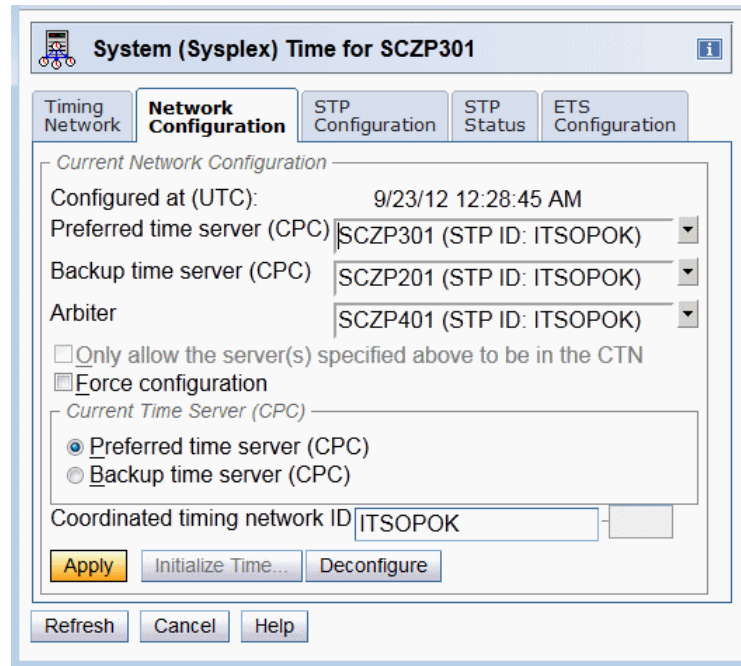

Figure 4-15 Assigning server SCZP401 as Arbiter
3. Select server **SCZP401** from the Arbiter pull-down menu (Figure 4-15).